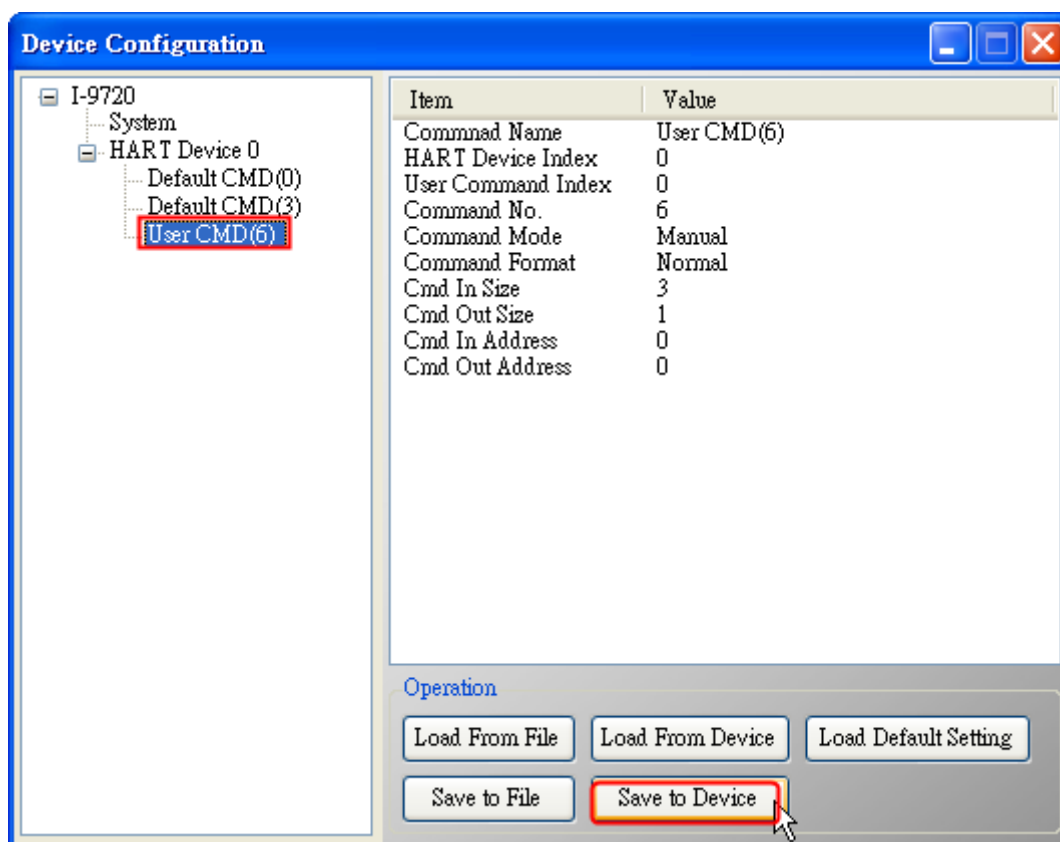

Figure 12-2 : “Save to Device”
(4) Click “Save to Device” button. (Figure 12-2)